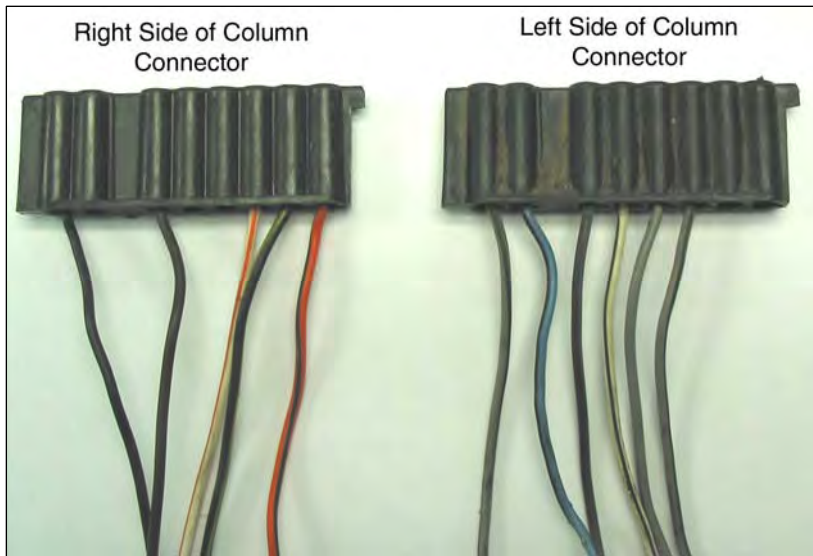

Figure 7.5.3 *Ind. Light Connectors*
- 7.5.3** Start by cutting the original connectors from your factory harness. Cut the factory wires to make two pigtails to splice to your new Painless harness, about 6"- 8" from the connector. (see **Figure 7.5.3**) This will give you plenty of length to splice to. This will also ensure you have enough length to route and connect to the Indicator light printed circuit board.